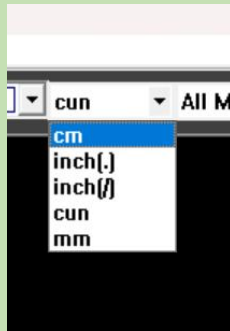

Figure 2-18
18.Select unit (as shown in Figure 2-18).